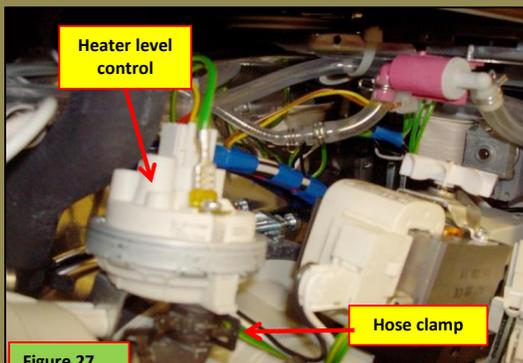

Figure 27
2. Using a pair of pliers, loosen the clamp securing the heater level control to the circulation pump; see Figure 27.